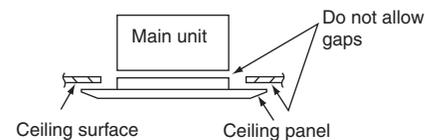

Fig. 3-46
(3) Tighten the supplied washer head screws at the 4 panel installation locations so that the panel is attached tightly to the unit.
(4) Check that the panel is attached tightly to the ceiling. (Fig. 3-46)